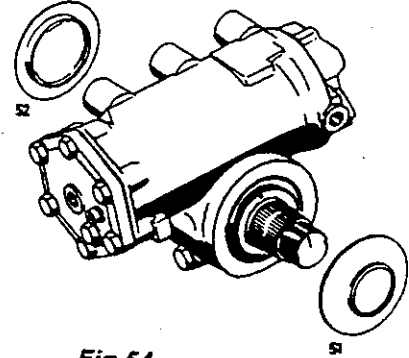

Fig.54
Slip dust seal (51) and plug (52) onto sector shaft (80) after ensuring that the space between the dust lip and housing (1) is filled with grease (see note in chapter III. with regard to the type of grease) (Fig.54).